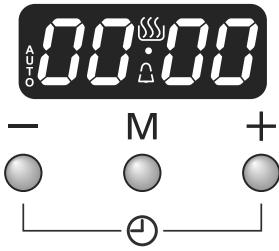

Fig. 2.18
1. Press the mode [M] button once (Fig. 2.18). The bell symbol (🔔) will flash on the display. Select the desired countdown from 00:01h to 23:59h using the [+] button (Fig. 2.19). The countdown will automatically begin and the (🔔) symbol will show in the display.